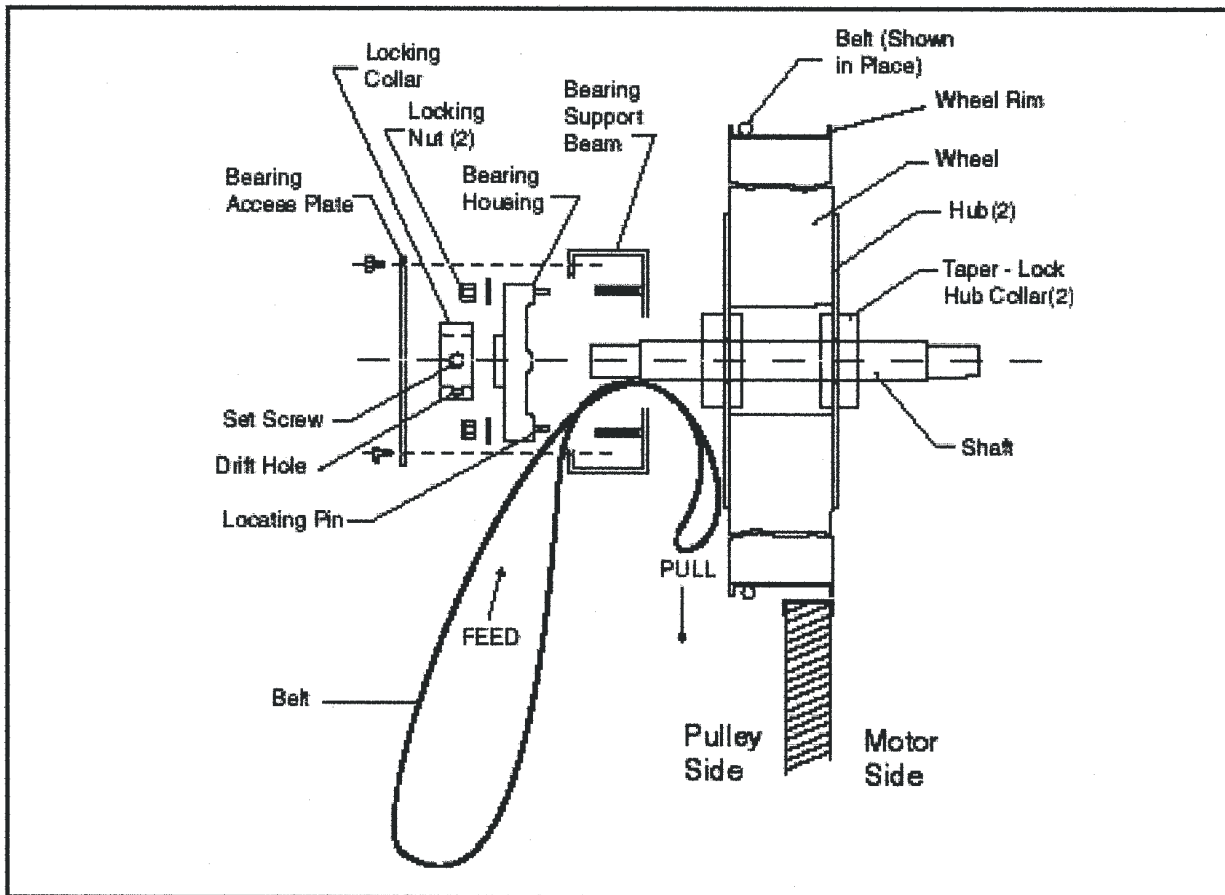

Figure 8 Belt Replacement (Figure 8 shown with diameter seals removed)
5. Form a small loop of belt and pass it through the hole in the bearing support beam. Grasp the belt at the wheel hub and pull the entire belt down. Loop the trailing end of the belt over the shaft (Fig. 8 & 9 shows belt partially through the opening).